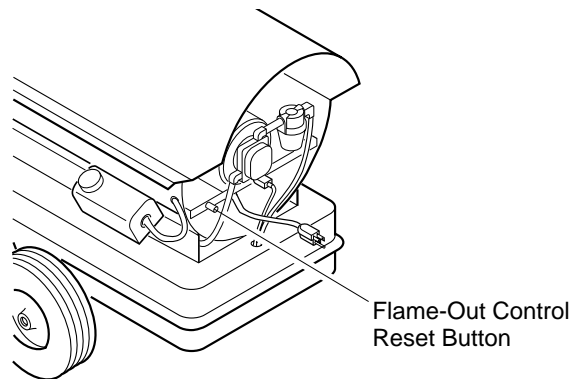

Figure 3 - Flame-Out Control Reset Button
7. The motor will start when extension cord is plugged into outlet. The heater should ignite at once. If heater does not ignite, restart heater. To restart heater, wait 60 seconds, then push in flame-out control reset button. Flame-out control reset button is at rear of heater near power cord (see Figure 3).
3. Motor overload protector tripped due to: A) Dirty fan B) Debris pulled into fan area by fan C) Binding pump D) Low voltage	3. A) See Fan Blades and Air Deflectors , page 12 B) Remove debris from fan and fan guard area. C) Turn fan by hand. If fan is hard to turn, see Pump , page 14. D) See steps B and C under item 1 above. Note: Be sure to reset motor overload protector by pressing reset button on top of motor.
4. Flame-out control not reset	4. Press and release flame-out control reset button. See Figure 3, page 6 for button location.